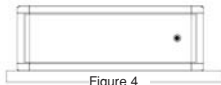

Figure 4
4. Rotate the digital level 180° in the same plane, figure 4, wait 10 seconds and write down the fourth degree value when stable.